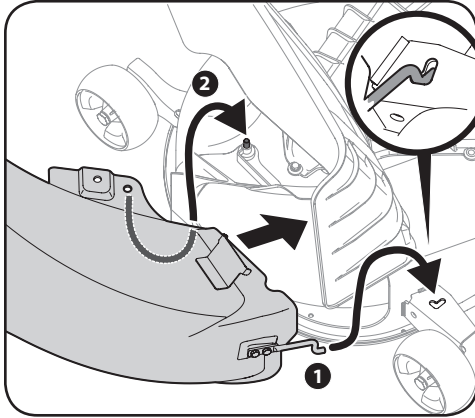

Figure 4-19
4. Insert the end of the discharge chute elbow (1) into the hole provided in the deck wheel mount as shown in the inset of Figure 4-19.
5. Pivot the discharge chute rearward until the hole in the discharge chute elbow aligns with the pin on the deck adapter. Move the discharge elbow down onto that pin as shown in 2 of Figure 4-19.